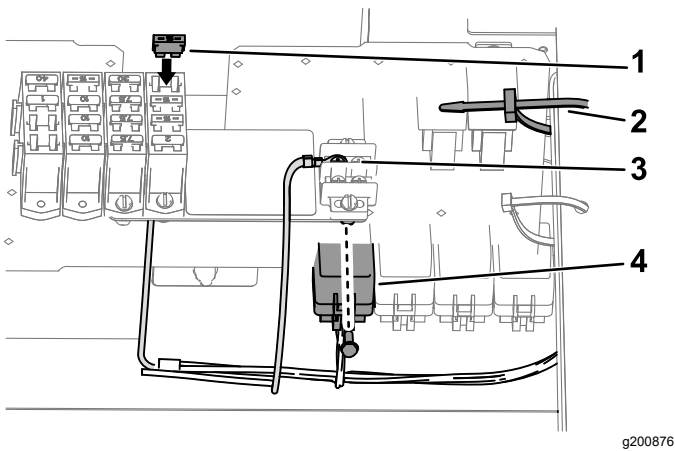

Figure 19
1. At the 197 cm (77-1/2 inch)—engine-compartment branch of the wire harness, align the relay with the 5-socket connect of the wire harness for the finishing kit (Figure 19).
- Insert the pins of the relay into the sockets of the connector (Figure 19).
- Align the hole in the mounting tab of the relay with the hole in the wire panel (Figure 19).
- Secure the relay to the panel (Figure 19) with the flange-head bolt (#10-24 x 1/2 inch).
- Remove a screw from the ground-terminal block (Figure 19).
- For a machine with the bladed-attachment connector at the fuse block for the machine, install the fuse into the fuse block (Figure 19).